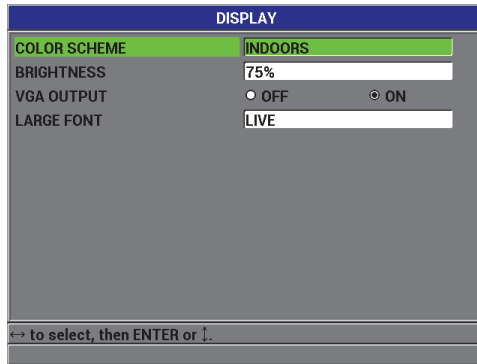

Figure 3-4 The DISPLAY screen
2. In the **DISPLAY** screen (see Figure 3-4 on page 55), select the desired parameter and value for the following parameters: